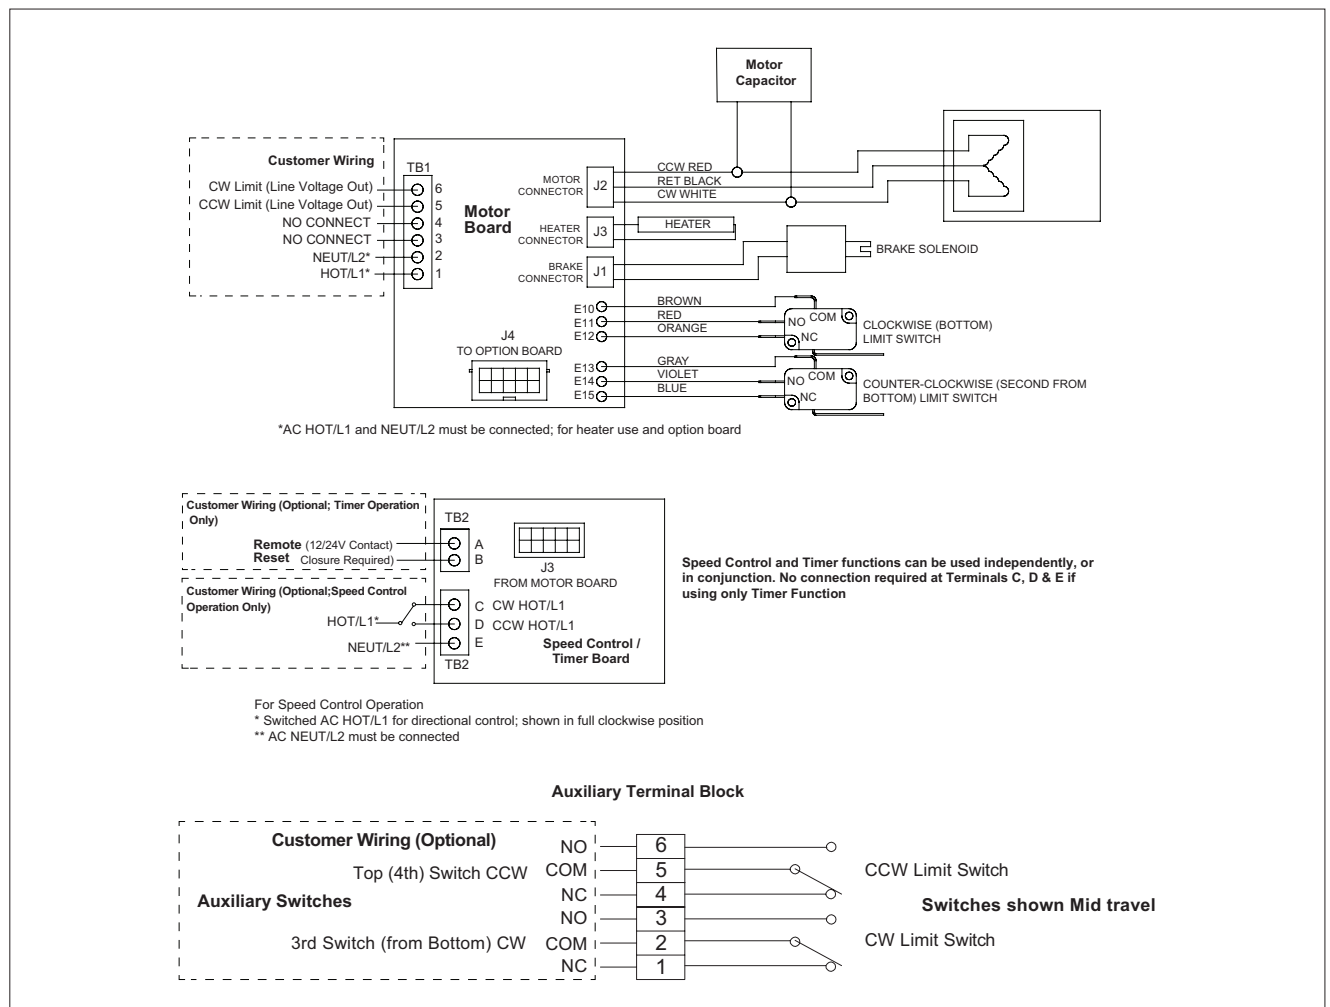

Figure 3.
Please consult the wiring diagram in (**Figure 3**) for specific connections and details.
3. Apply power to terminals 1 and 2, and use the MANUAL mode to drive to the respective end of travel, (**see Figure 3**) or use the manual override.